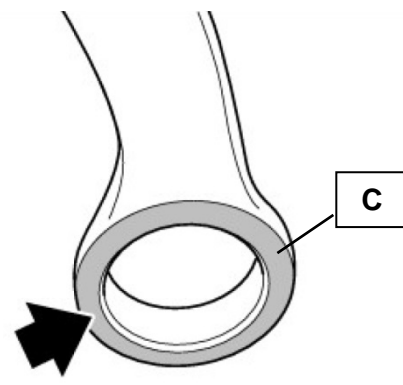

Fig.3
1. Before installation, clean the contact surface (C) of the new ball joint (see Fig. 3).